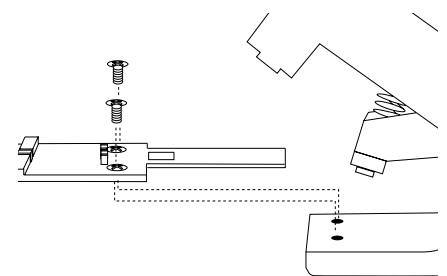

Figure 7
5.4 To replace the fiber guide (Figure 7):